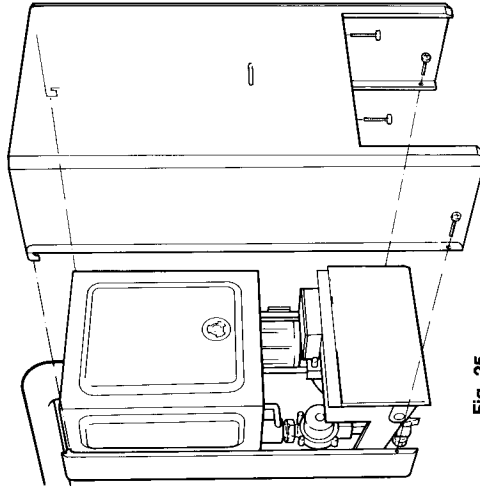

Fig. 25
- 6.14** **Refixing the Front Cover (fig 25)**
Slide the casing downwards to fully engage the hooks and to align the bottom fixing holes. Replace the four case retaining screws. (fig 25)